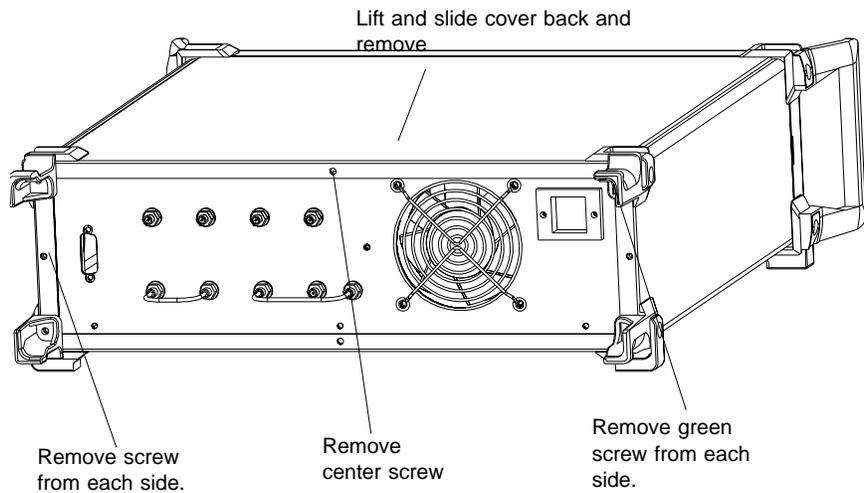

Figure 5-1. *Top/Bottom Cover Removal*
- Remove the feet from the two top corners at the rear of the Test Set (Figure 5-1).